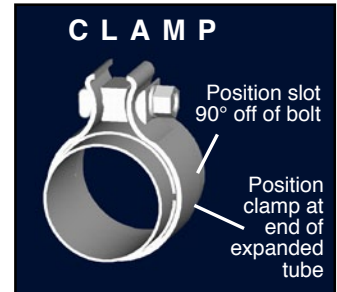

FIG. 1
**NOTE:** Align all clamps so that the center of the clamp bolt is 90 degrees from the notch in the pipe (See Fig. 1 to the right) All clamps should be tightened using a properly calibrated Torque Wrench. Using an air impact gun will damage the clamp and reduce its ability to effectively seal the joint. It may also cause the joint to separate thereby causing damage to your exhaust system and your vehicle.